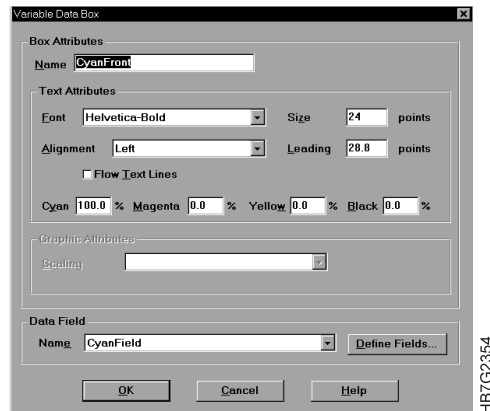

Figure 142. Variable Data Box Dialog
4. Select the data field whose contents belong in this box. Figure 142 shows the CyanFront text box.